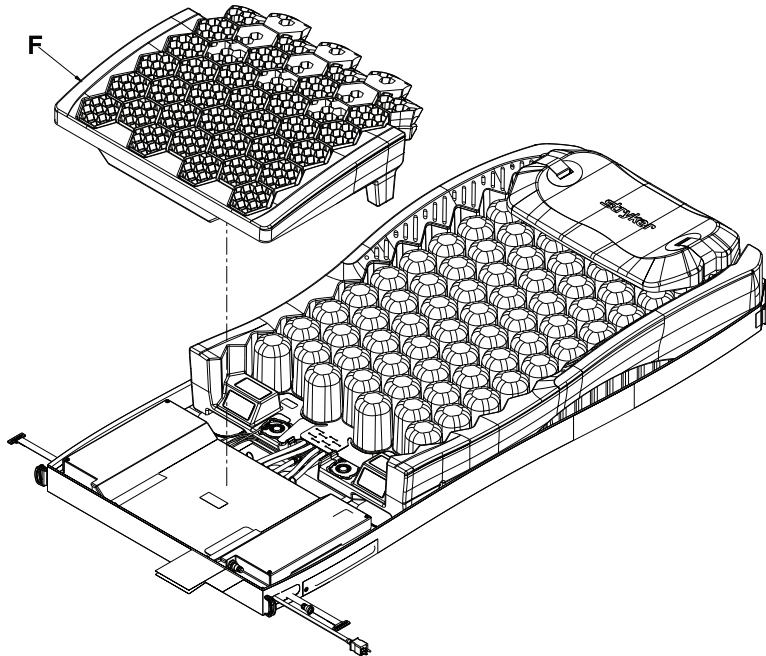

Figure 1-26: Gel crib
11. Remove the foot section gel crib (F) by lifting upward (Figure 1-26 on page 1-54). Save gel crib.